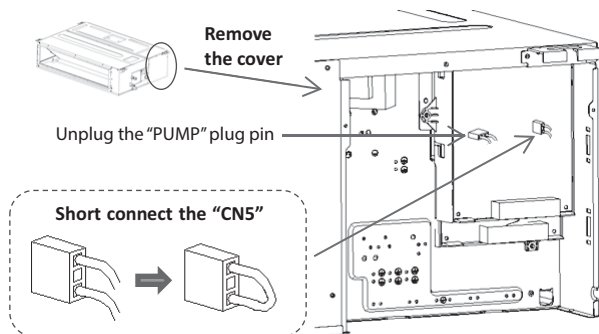

**Fig. 18 – Connect the drainpipe to the connector D**
- Connect the drainpipe to connector D (see Fig. 18).